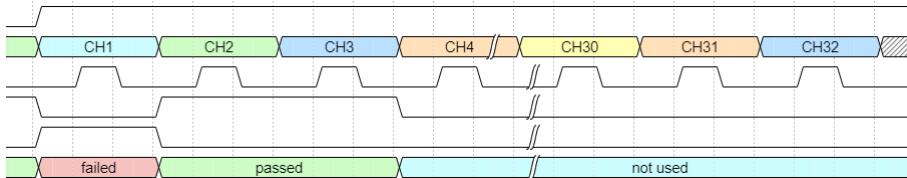

Figure 15: Control Interface: after overall project end, all channel results are reported sequentially - timing diagram (500us/div)
- when BUSY\_N signal goes high, the channel results of the entire sequence of channels (CH1..CH32) are reported on CH\_INDEX[4..0], FAIL\_CH, PASS\_CH and VALID\_CH (figure 15).